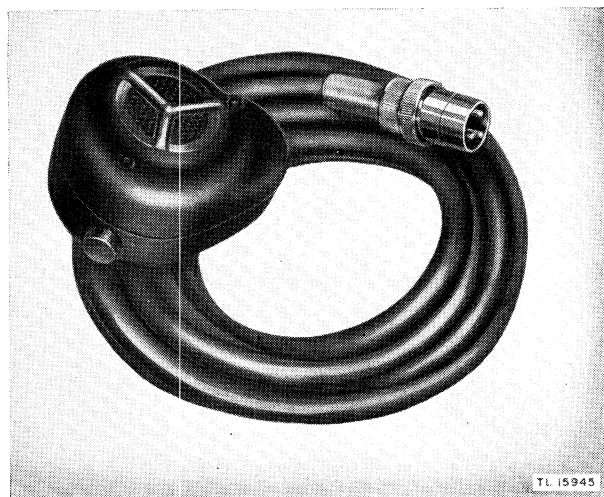

Figure 24. Microphone T-50.
d. MICROPHONE T-50 (fig. 24). Microphone T-50 is a small, hand-held, dynamic type microphone. The three-contact plug on the end of the microphone cord plugs into the DYNAMIC MIC. 2 jack on the front panel of Speech Amplifier BC-614-H. The small button on the side of the microphone controls the operation of the transmitter.